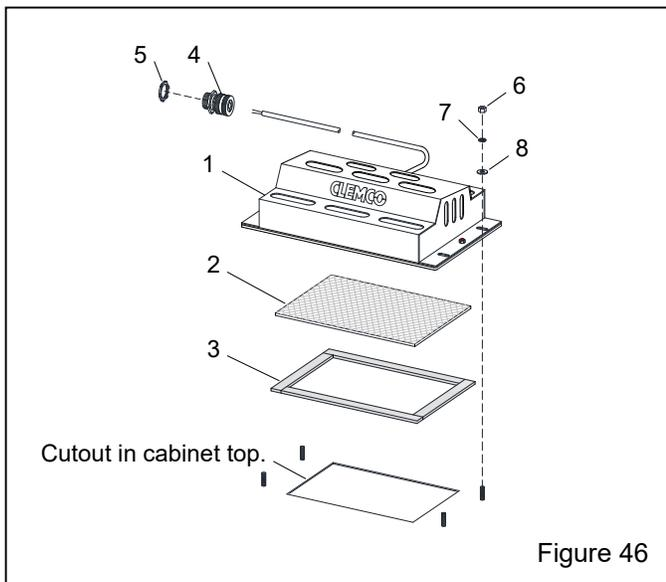

Figure 46
**9.4 LED Light Assembly – Figure 46**